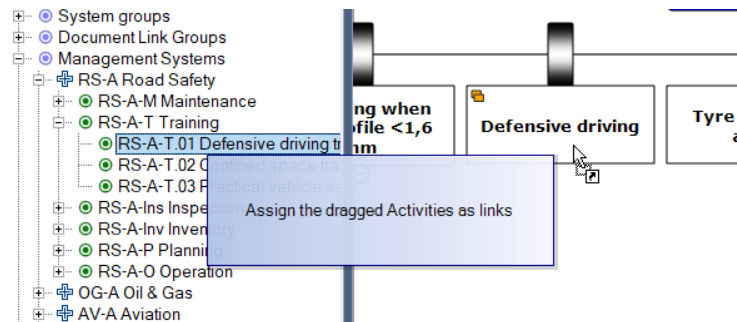

Figure 25 - Assign Tree view values to the diagram
2. Move the mouse over to the diagram whilst holding the mouse button. You will see the mouse pointer indicate when it is valid to let go (Figure 25 - Assign Tree view values to the diagram)